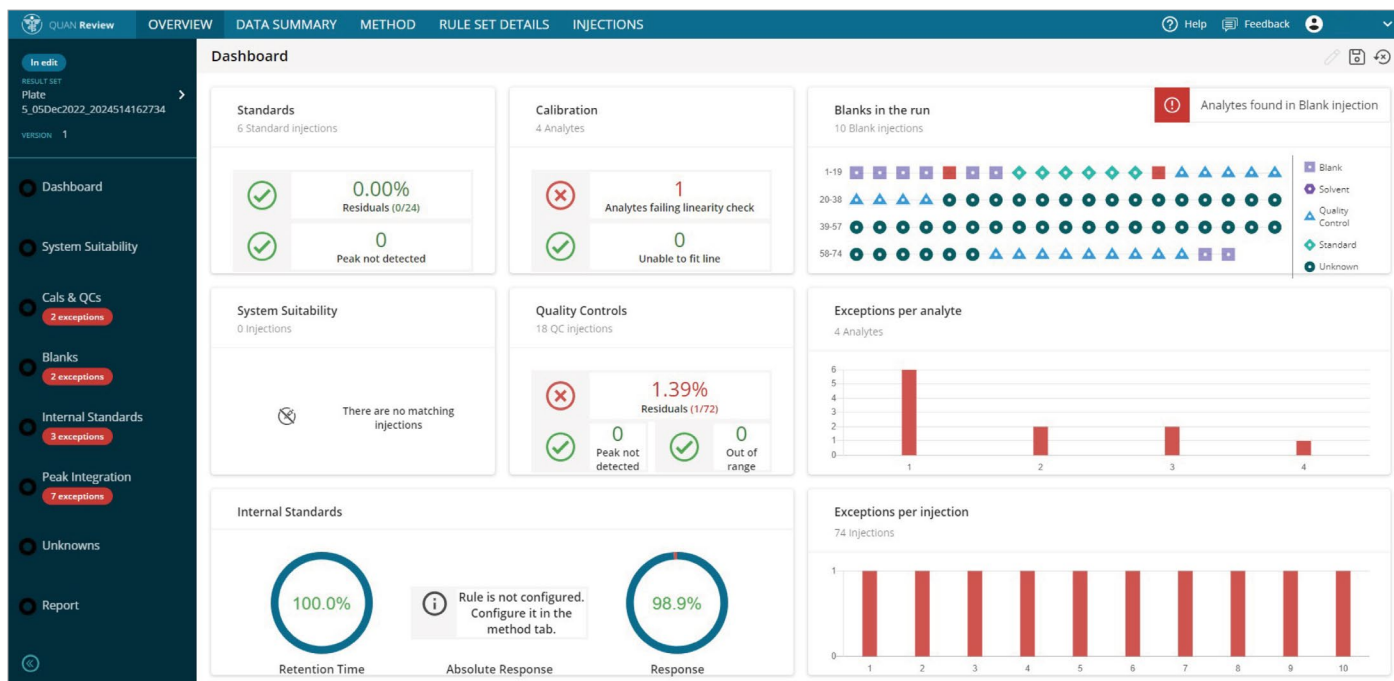

Figure 3. An example of the Overview page showing exceptions in the Cals & QCs (n=2), Blanks (n=2), Internal Standards (n=3), and Peak integrations (n=7).
- The Dashboard summarizes the batch status and highlights data exceptions utilizing the applied rule set (Figure 3).
On a single page, the user is able to review all the batch-specific performance data including system suitability, calibrators and QCs, blanks, internal standards, peak integration and unknown samples (Figure 3). A task-oriented workflow decouples complicated data review into simplified steps which allows the user to quickly navigate through data and accelerates the review process.